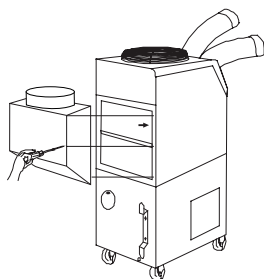

Figure 19
3. Use screws (enclosed inside of box with air adapter) to install the adapter on the air conditioner as shown in Figure 19.